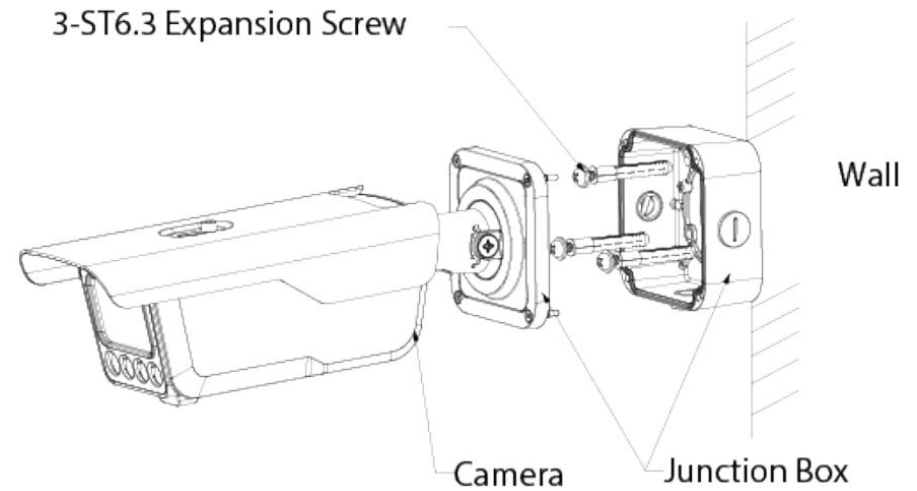

Figure 2-1
**Step 1** Drill holes on the wall according to the holes on the junction box in Figure 2-1.